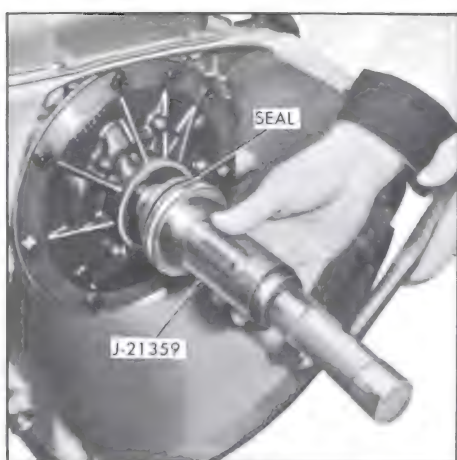

Figure 5-705
22. If necessary, install a new front seal, using tool J-21359, to drive the seal in place. See Figure 5-705.